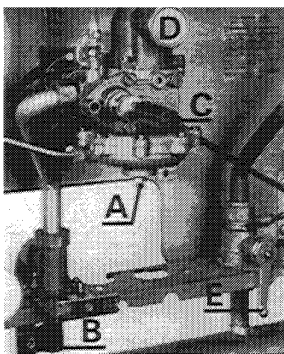

Fig. 16
With the pump fitted, the system should be filled and air locks cleared. The boiler water section can be vented if necessary by unscrewing the drain valve (see A fig. 16). Vent all radiators and check for water soundness.
With the circulating pump fitted, the system should be filled and air locks cleared until the pressure gauge registers 1.5 bar (21.5 p.s.i.). (The boiler water section can be vented if necessary by unscrewing the drain valve, see A fig. 16). Vent all radiators and check for water soundness.
b) Open gas service tap by turning to \uparrow (see B fig. 16).
c) Press in pilot valve knob and light pilot using the ignition button, continue to hold in the pilot valve knob for 30 seconds and release (n.b. the pilot should remain alight, it may be necessary to wait a few moments for gas to reach the pilot) (see C fig. 16).
Remove the pressure test point screw from the left hand end of the burner manifold and connect pressure gauge suitable for measurement in the range 0-20 mbar (0-8 in.w.g). Remove the hexagonal cap from the front of the gas volume governor to expose the adjusting screw (D fig. 16).
The data badge is situated at the bottom right hand side of the chassis (fig. 16).
Close the isolating valves on the boiler by turning in a clockwise direction. Drain the boiler by unscrewing the drain valve (A fig. 16).